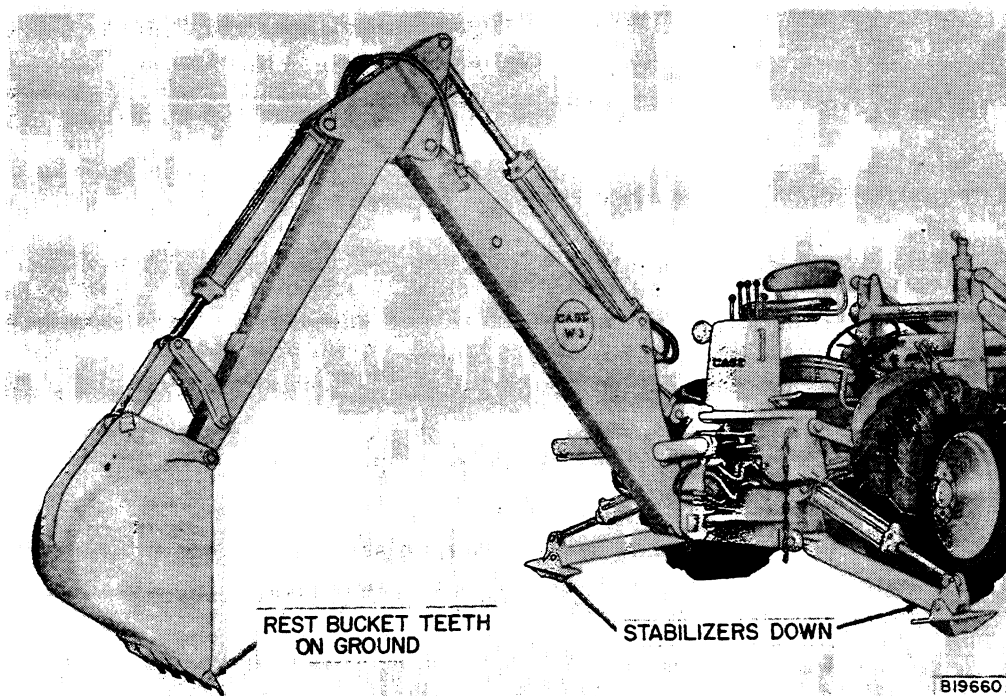

Figure 25 - Backhoe Forming a Tripod
2. Start the Tractor engine and use control levers to form a "tripod" with the Backhoe, as shown in Figure 25. Lower stabilizers, exerting enough "down-pressure" to take all the weight of the Backhoe from the Tractor.